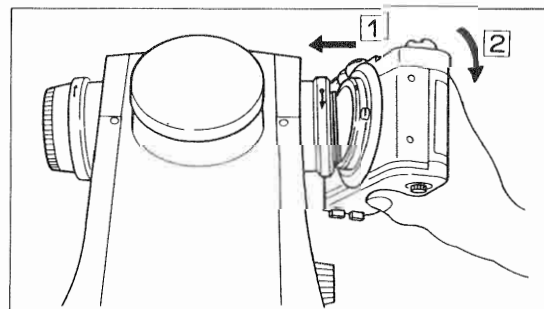

Fig. 23
- (1) Aligning the mounting marks on the dark box and microscope mount, install the camera box, rotating it in the indicated direction to its full stop. (Fig. 23)